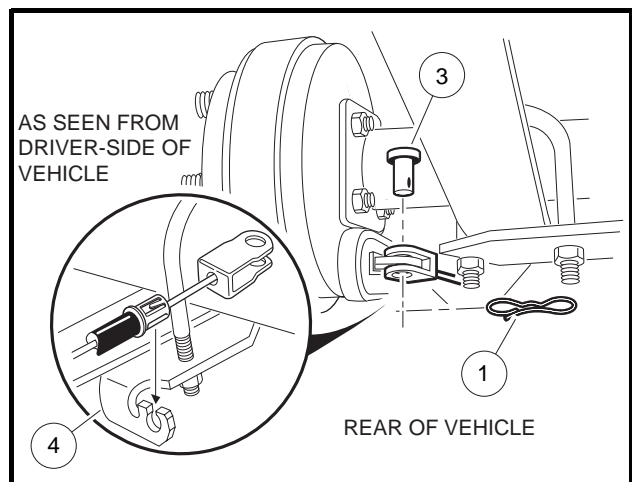

Figure 16-7 Brake Cable
5. Remove the bow tie pins (1) and brake cable clevis pins (3). Use tool (CCI P/N 10255501) to compress tangs on cable end and remove cable end from bracket (4) (Figure 16-7, Page 16-5).